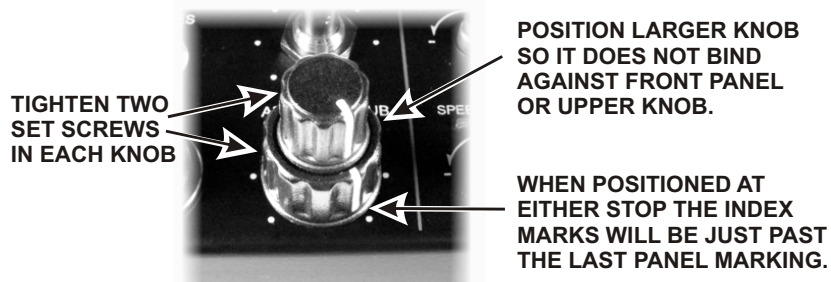

Figure 43. Mounting Concentric Knobs.
- Place the larger of a pair of concentric knobs over the RF/SQL - SUB control as follows (See Figure 43):
- Place the smaller knob over the shaft, align its index line as shown in Figure 43 and tighten one set screw with a 0.050" Allen wrench.